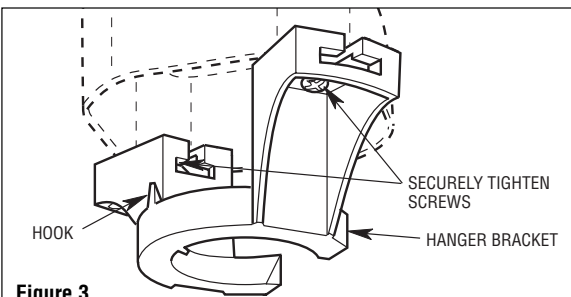

Figure 3
3. Slide the hanger bracket onto the outlet box screws. Center the bracket over the outlet box and then securely tighten the screws (Figure 3).